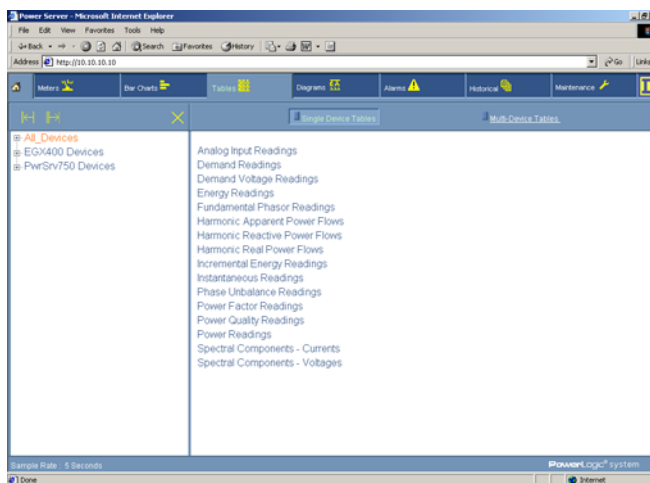

Figure 4: Single Device Tables selection list
The new table should now display in the table list. See Figure 4 on page 9.
2. Click the Single Device Tables button to display the list of available single device tables (Figure 4).